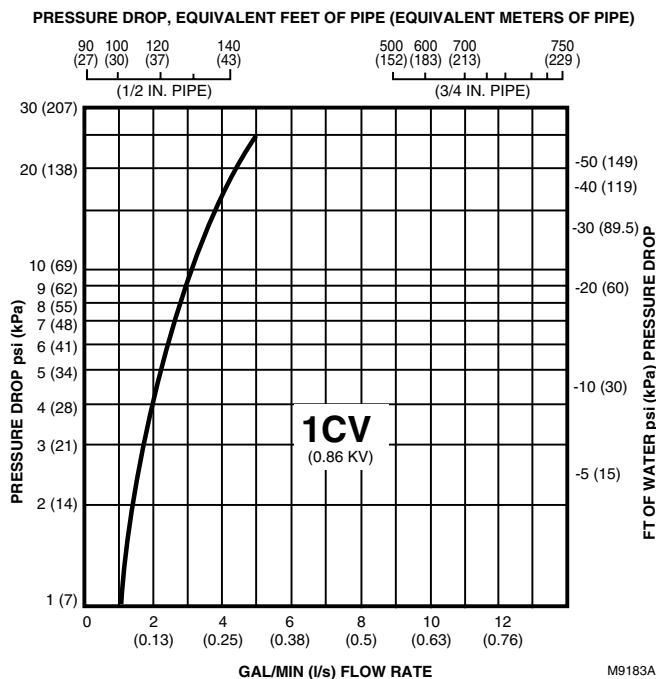

Fig. 3. Flow characteristics of 1 Cv (0.86 kV) flow.
The pressure drop in psi (kPa), equivalent ft (m) of pipe, or feet of water (kPa) can be calculated from Fig. 3 through 8 as follows:
- 3 Select the graph corresponding to the C_V (kV) rating (Fig. 3 through 8).